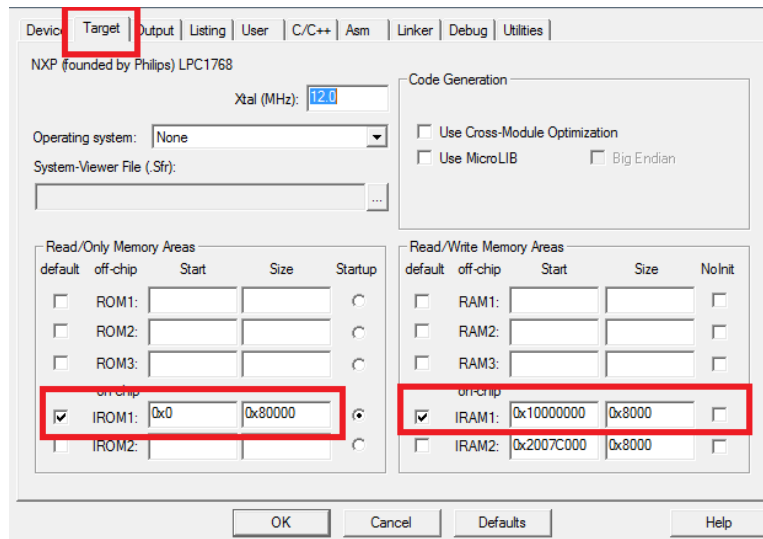

Figure 2.3: Keil IDE: Target Default Memory Map Configuration
- the default memory map is used (see figure2.3); and